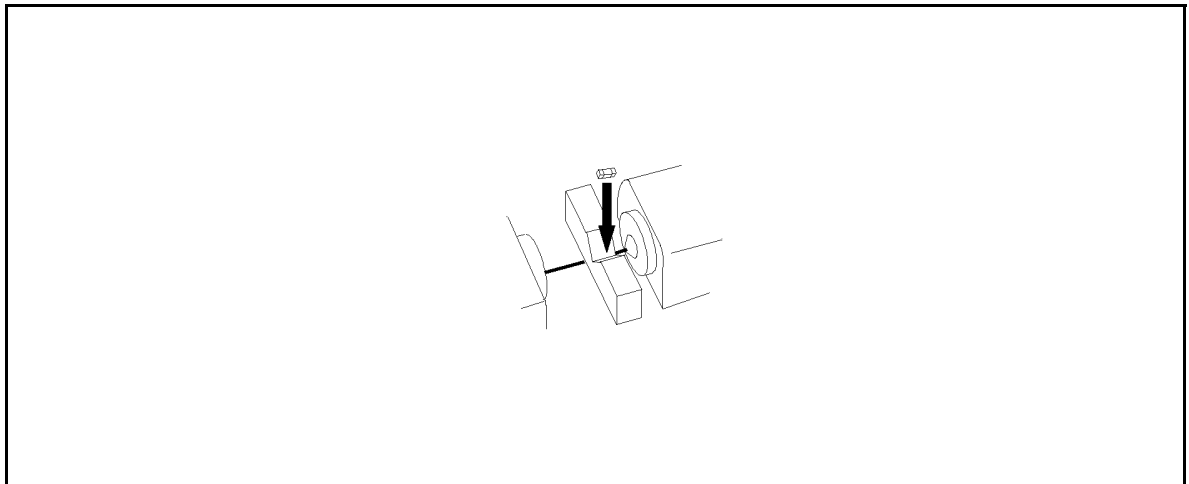

Figure 6-2. Chip Capacitor Binding
7. Clip the capacitor to the 16339A (see Figure 6-2), and close the top cover.